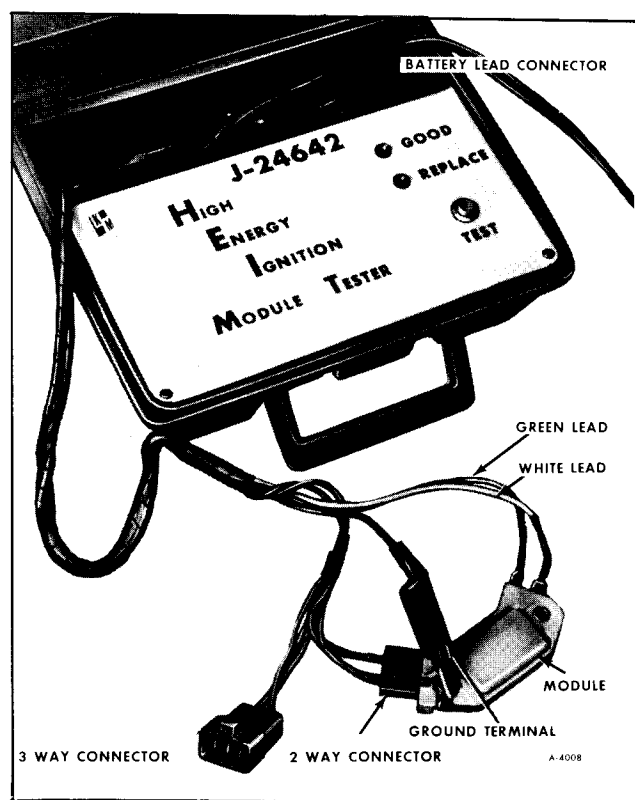

Figure 58—Bench Test of Module Using Tool J-24642
9. Module may be tested on bench using Tester J-24642 (figure 58).
battery positive. Terminal and black lead to battery negative terminal. Connect ground terminal of analyzer to module ground as shown in (figure 58).